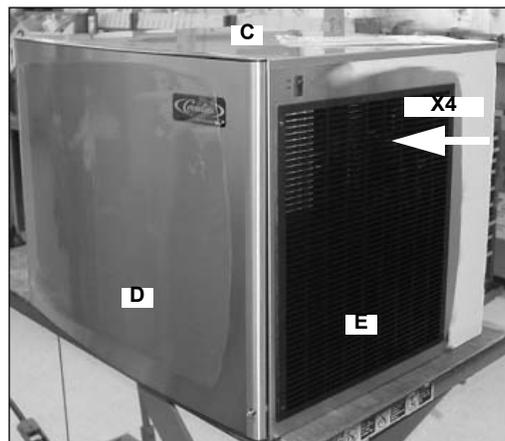

Figure 56.
66. Replace the top cover (C) and the front panel (B). Attach the louvered panel with (4) black, hex head screws (Figure 56).